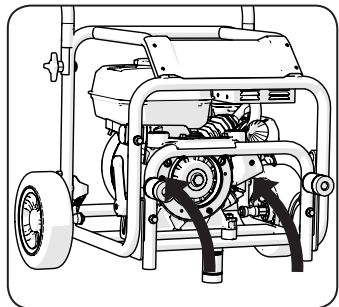

Fig 17
- Fold the frame and push inwards and upward into its stowed position. (Fig. 17)